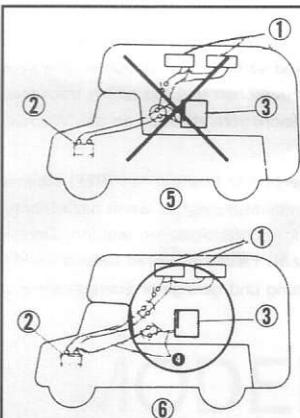

Fig.3
- 7.1. Direct connection between battery and refrigerator. Avoid the use of unnecessary plugs, switches, distribution sockets etc. between the battery and the refrigerator, as these will contribute to voltage drop at the input terminals and momentary peak voltages caused by other electrical equipment the same circuit can damage the refrigerator inverter. Always connect the refrigerator directly to the battery. (See Fig.3)
- 7.3. DC current supply cable must have cross sectional area of at least  $2.5 \text{ mm}^2$  to prevent voltage drop. Cable runs should be as short and direct as possible, for the same reason. (Refer to Fig.3,4)
- 7.4. ENGEL eclipse refrigerator is protected against radio interference to the requirements of EN 50081-1. In order to avoid radio interference on the DC supplyline, please use separate positive and negative cables, which are twisted together in a spiral form. (See Fig.3)
- 7.3. DC current supply cable must have cross sectional area of at least 2.5 mm2 to prevent voltage drop. Cable runs should be as short and direct as possible, for the same reason. (Refer to Fig.3,4)